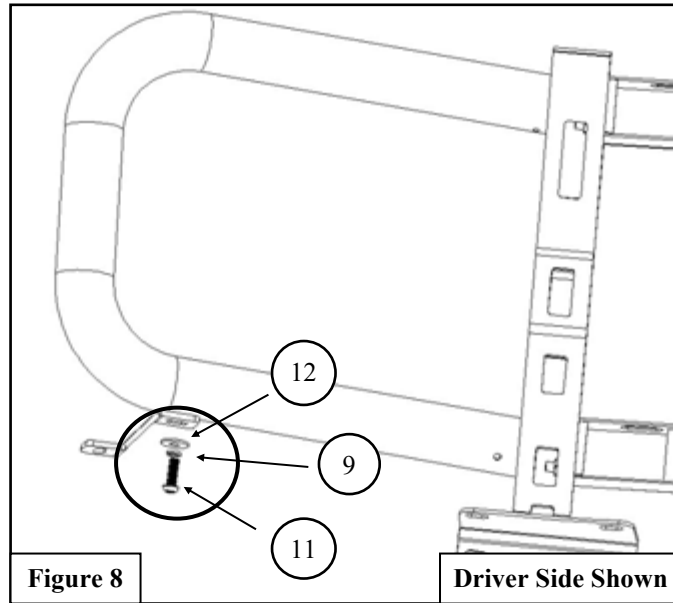

Figure 8
9. Locate the Driver Side Lower Support Bracket (**Item 4**) and loosely attach it to the Brush Guard assembly using the supplied M8 hardware (**Items 9, 11, & 12**). See **Figure 8** for reference.